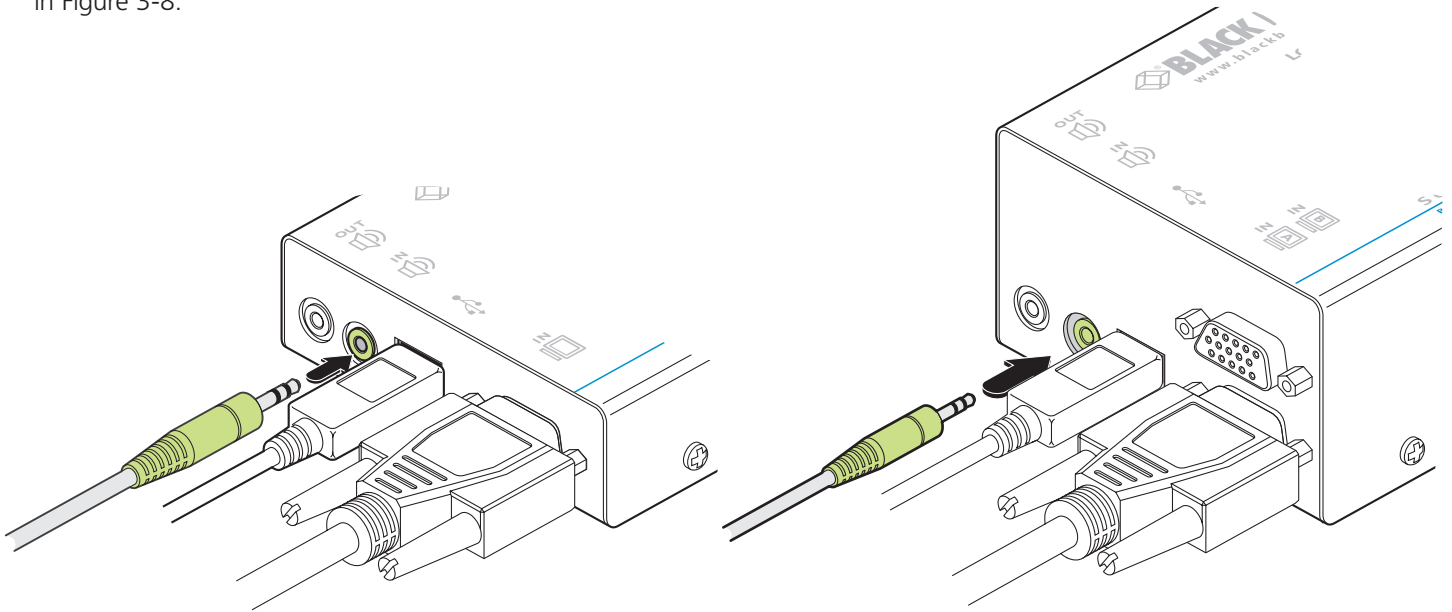

Figure 3-8. Attaching an audio input to the single- and dual-variant local modules
- 1 Optionally connect an audio link from the computer's speaker port to the audio input port on the local module as shown in Figure 3-8.